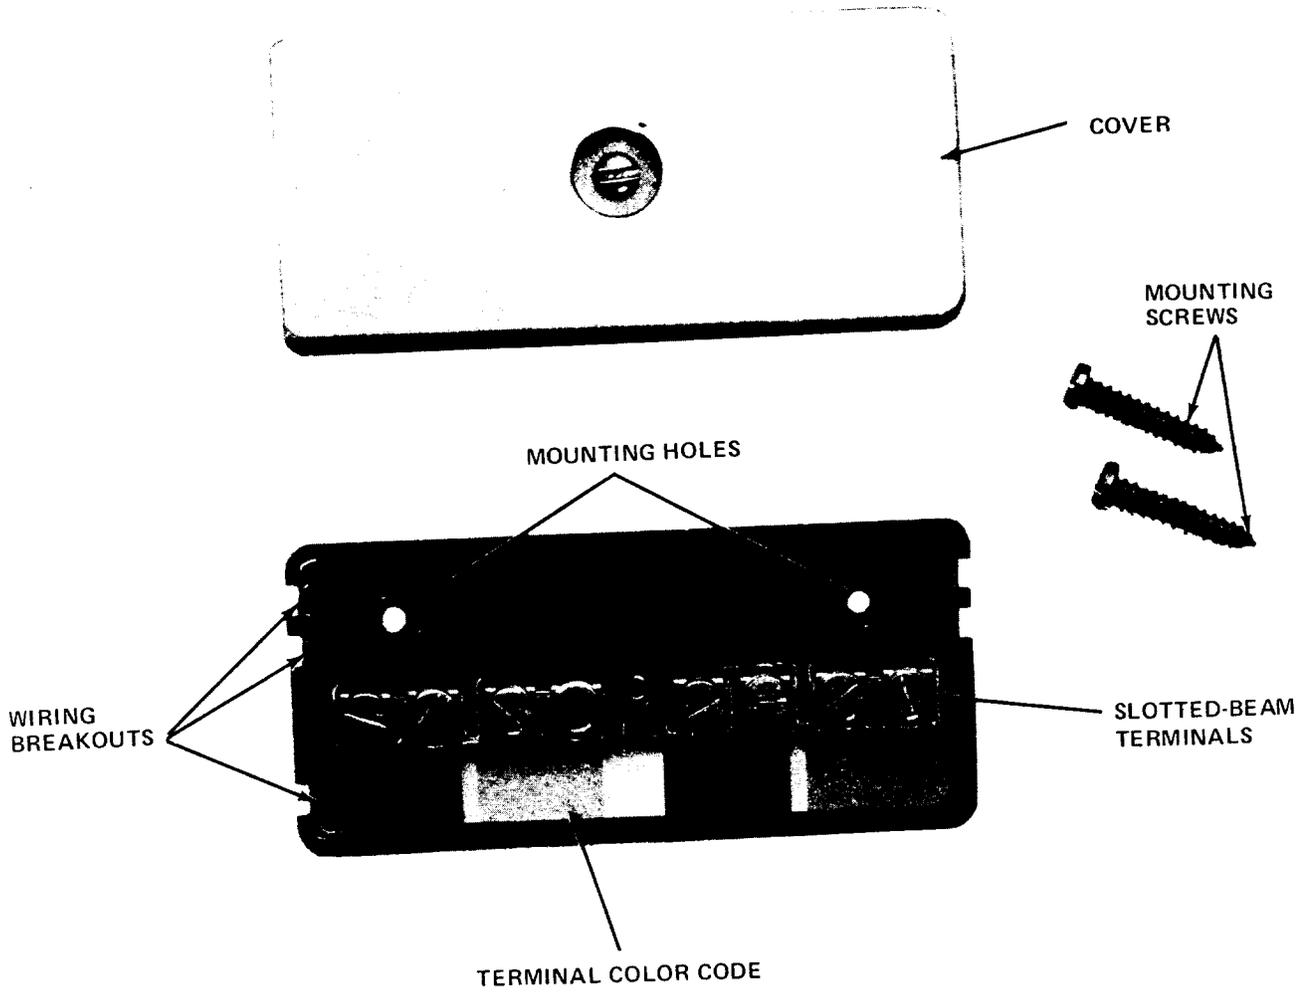

Fig. 9—742B Connecting Block
**E. 742B Connecting Block (Fig. 9)**